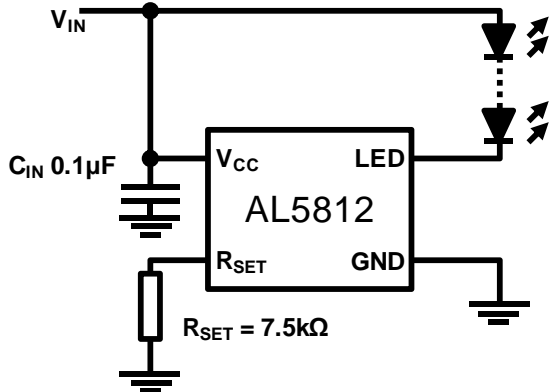
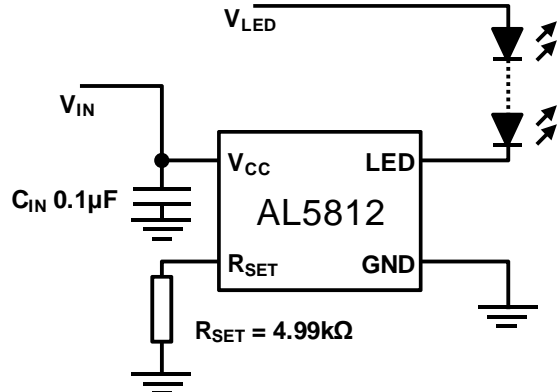
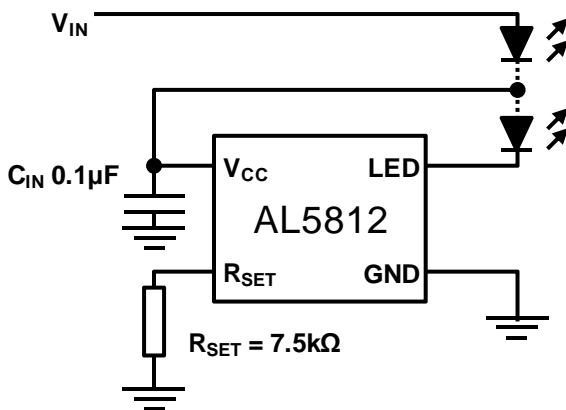

Figure 13 Low Side Current LED Setting
Figure 14 Low Side Drive – Separate Supplies
Figure 15 Low Side LED String Tapping
- 13. The AL5812 has its V_{CC} pin connected to its LED pin, which are connected to the positive input supply voltage. R_{SET} is connected to AL5812 GND pin, which is connected to the anode of the LED chain. This creates a high side driver of the LED chain. See Figure 15.
The AL5812 is a Linear LED driver and in normal operation has the LEDs connected to the same potential as its V_{CC} pin and regulates the LED current by sinking current into to its LED pin see Figure 13.
The AL5812 with its 60V capability on its supply pin, V_{CC} , and its LED drive pin allows it to operate from supply rails up to 60V and/or directly drive LED chains up to 60V as shown in Figures 13 and 14. The voltage applied to the V_{CC} pin can be greater or lower than the voltage applied to the LED string. Figure 14 shows where you might control it from a 5-V rail but power the rails from a 12V rail.
An extension of Figure 14 is to derive the power for the AL5812 from the LED chain itself see Figure 15. LED chains greater than 60V can be driven in this manner as long PWM dimming is not utilized.